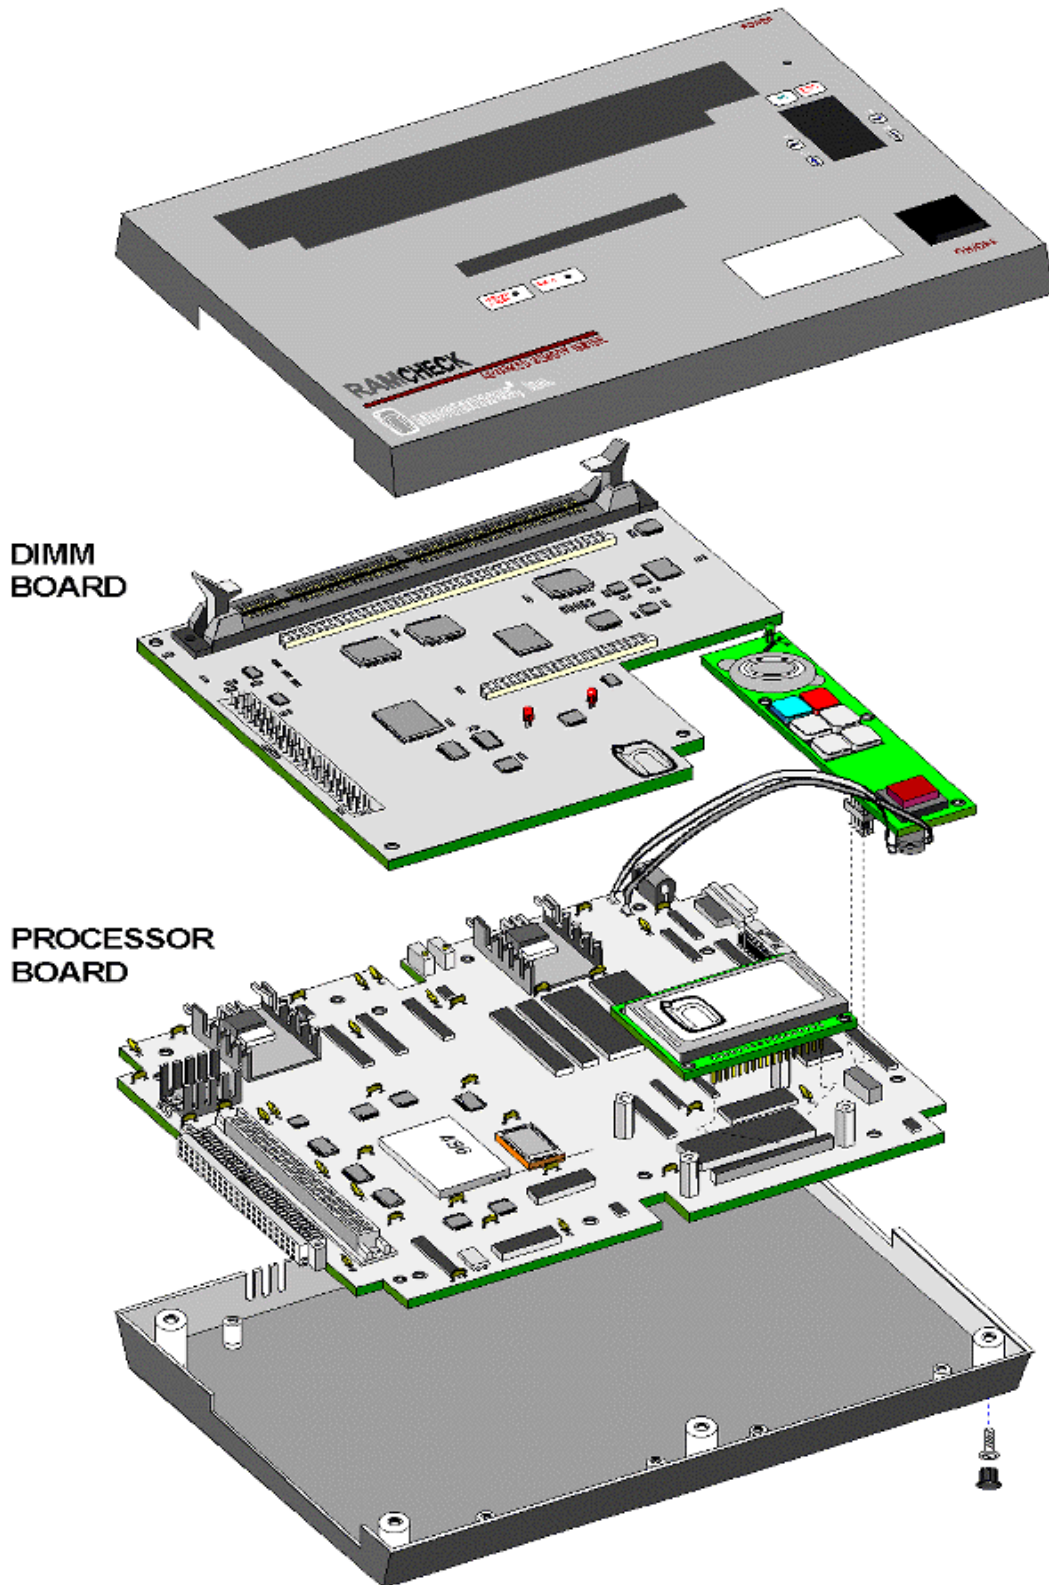

FIGURE 2
3. Remove the (6) retaining screws (4/40 x 5/16 phillips) from the top circuit board. Pull top circuit board straight up, separating it from the bottom board at the 96-pin connector on the left as shown in Figure 2.
4. Remove the (2) screws (4/40 x 7/16 Slot Pan Head) on either side of the 168-pin socket.
3. Replace (2) screws (4/40 x 7/16 Slot Pan Head and tighten (Avoid damaging the circuit board by over tightening). See Figure 2.
4. Replace the top circuit board and replace (6) screws (4/40 x 5/16 Phillips) and washers (do not over tighten).
5. Place the case halves back together and replace (6) screws (#4 x 3/8 machine Phillips), do not over tighten. Replace the rubber feet.